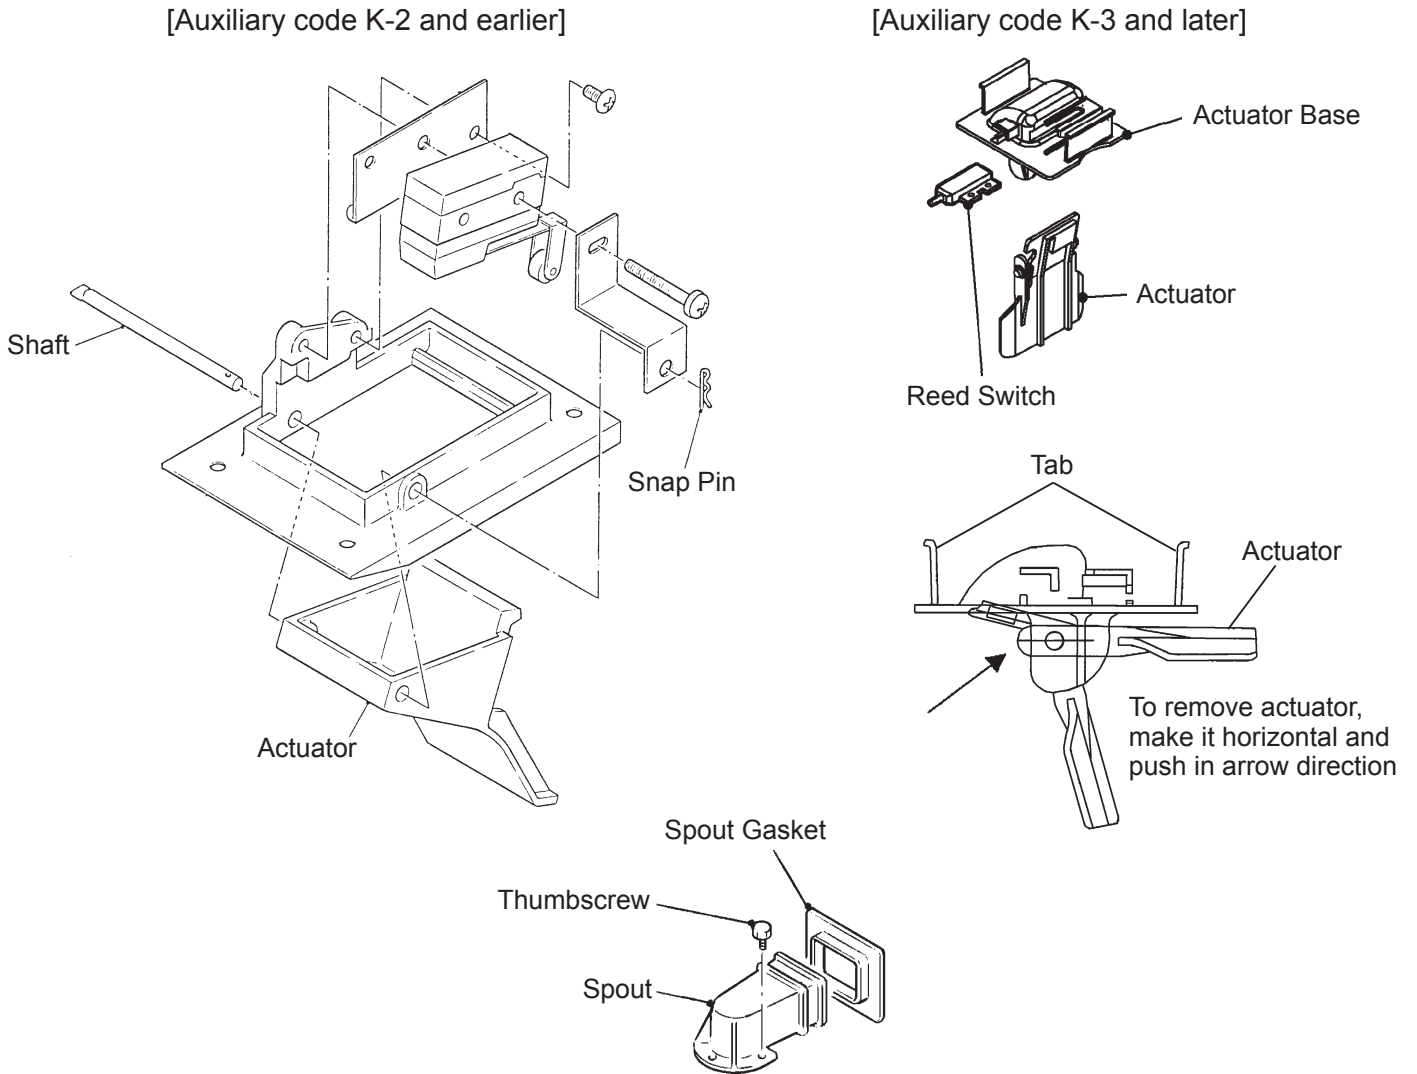

Fig. 11
Open the Door and remove the Actuator Assembly from the Upper Panel by pushing the tabs on the Actuator Base inward (See Fig. 11).
Remove the Snap Pin, the Shaft and the Actuator from the Bin Control Assembly (See Fig. 11).
Remove the Reed Switch and the Actuator from the Actuator Base (See Fig. 11).
25) Remove the Thumbscrews, the Spout and the Spout Gasket (See Fig. 11).